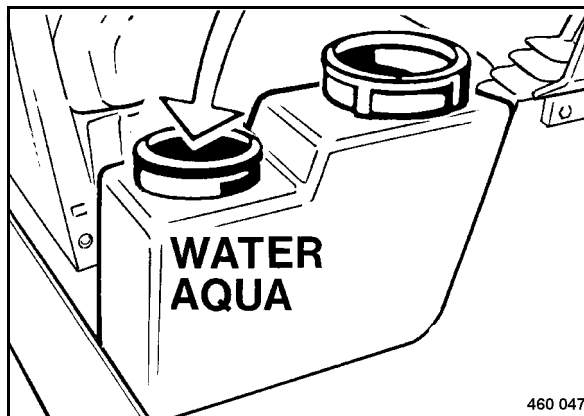

Fig. 83
- Open the lid (Fig. 83) and check the water level.